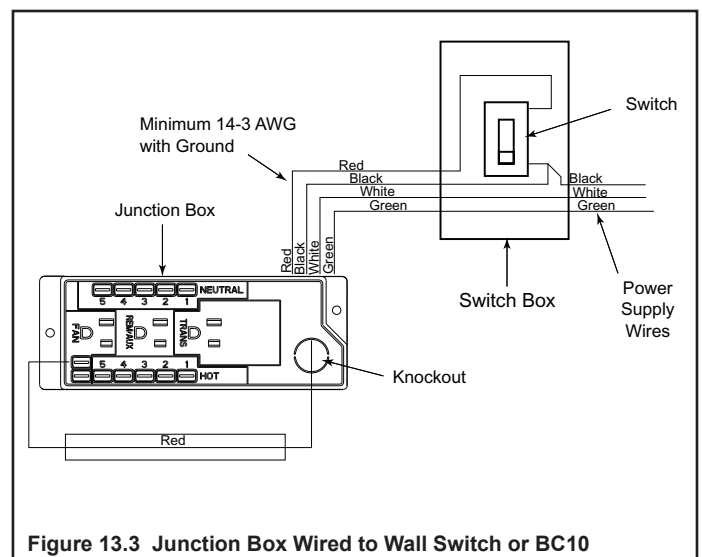

### Figure 13.2 Junction Box Detail
- Remove the cover plate located on the outer shell - right side (see Figure 13.2).
- Remove the screw attaching the junction box/receptacle to the outer shell, rotate the junction box inward to disengage it from the outer shell (see Figure 13.2).
- Pull the electrical wires from outside the appliance through this opening into the valve compartment. See Figure 13.2.